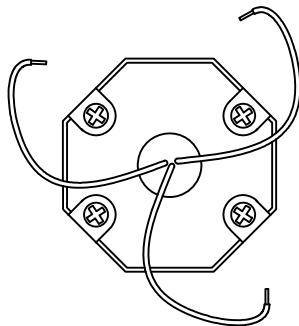

FIGURE. 3
3. MOUNT EITHER AN OCTOGONAL OR SQUARE JUNCTION BOX (NOT SUPPLIED) TO WALL (RECESSED OR SURFACE). SEE FIGURE 3.